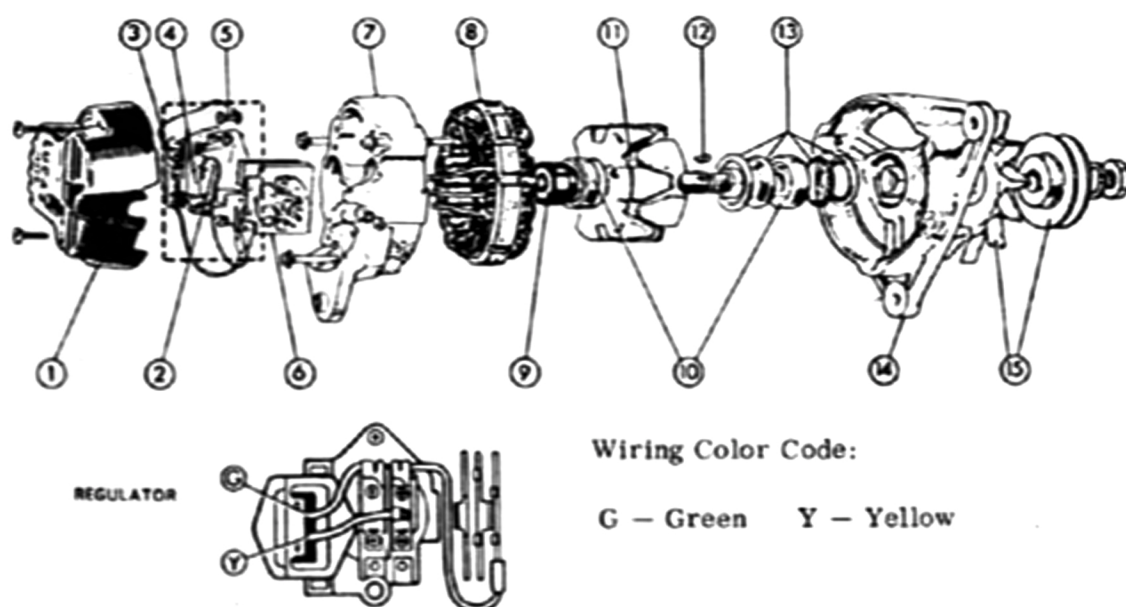

Fig. 57 - Partially exploded view of Lucas 15 ACR alternator used on all models.
Continue disassembly as follows: Scribe a mark across alternator halves (7 and 14 - Fig. 57). Remove mounting bolts and separate alternator. Separate stator (8) from slip ring end bracket. Remove drive pulley, fan and shaft key and separate rotor assembly (11) from drive end bracket. Remove snap ring, shield and front bearing assembly from drive end bracket. Unsolder field winding connections and remove slip ring (9). Press off rear bearing.